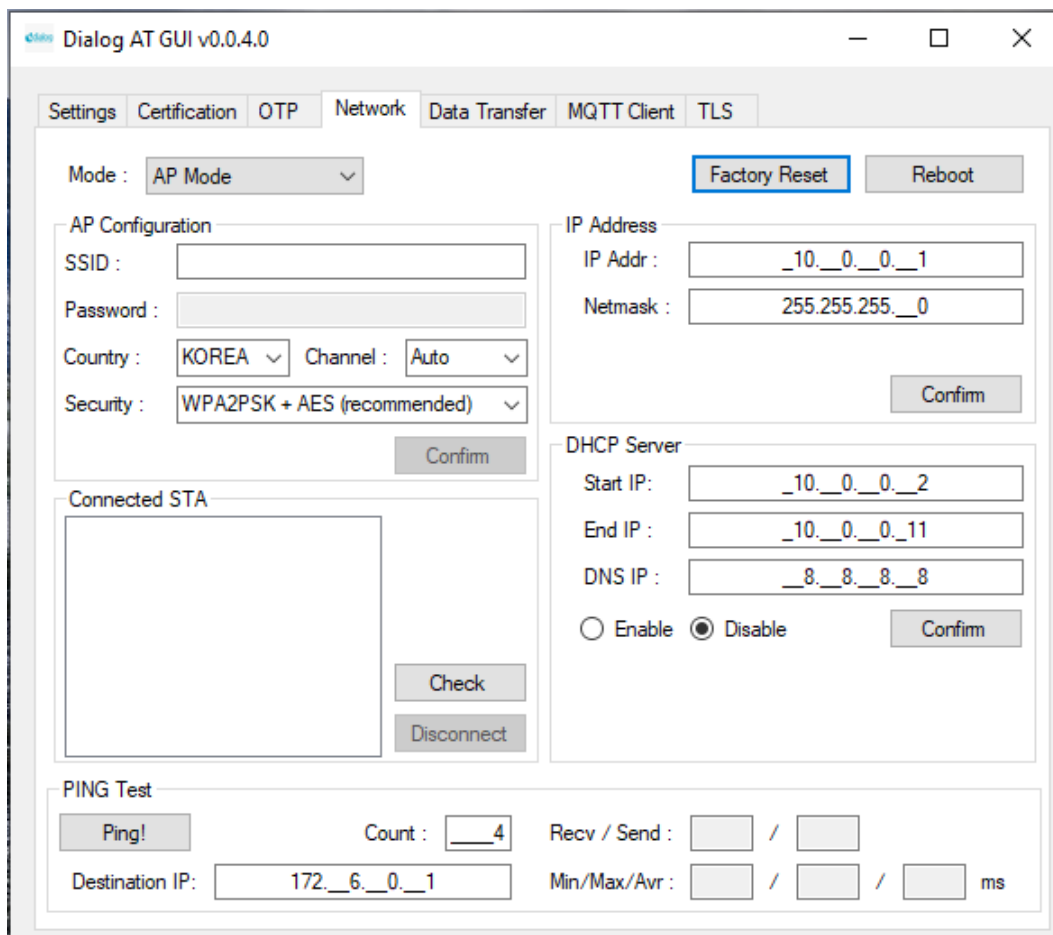

Figure 19: Setup Window – AP Mode
- The network mode changes, DA16200 reboots, and the AP Mode setup window opens. See Figure 19